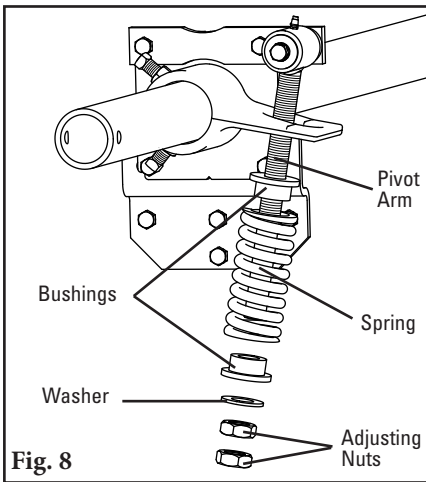

Fig. 8
13. **Reassemble the spring assembly.** Slide the spring, washer and bushings onto the pivot arm and turn the two adjusting nuts so about 1/4" of the pivot arm is exposed above the nuts (Fig. 8).